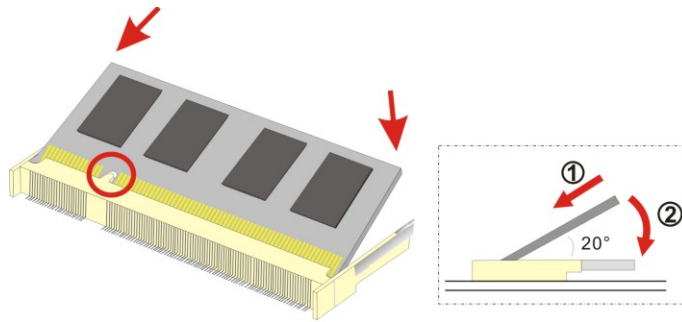

Figure 4-4: SO-DIMM Installation
To install a SO-DIMM into a SO-DIMM socket, please follow the steps below and refer to **Figure 4-4**.
- Step 3:** Insert the SO-DIMM. Push the memory in at a 20° angle. (See **Figure 4-4**)
- Step 4:** Seat the SO-DIMM. Gently push downwards and the arms clip into place. (See **Figure 4-4**)